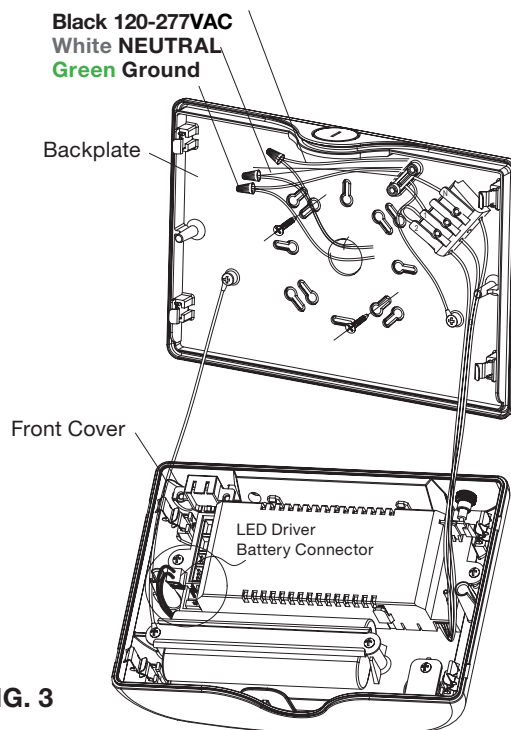

FIG. 3
4. Connect the unit wires to building's wires using the wire nuts provided. Connect the white wire to neutral, connect the black wire to hot lead (120-277V) per Fig 4. Then feed the wires and wire nuts back into J-box for back power feed (Fig 3).